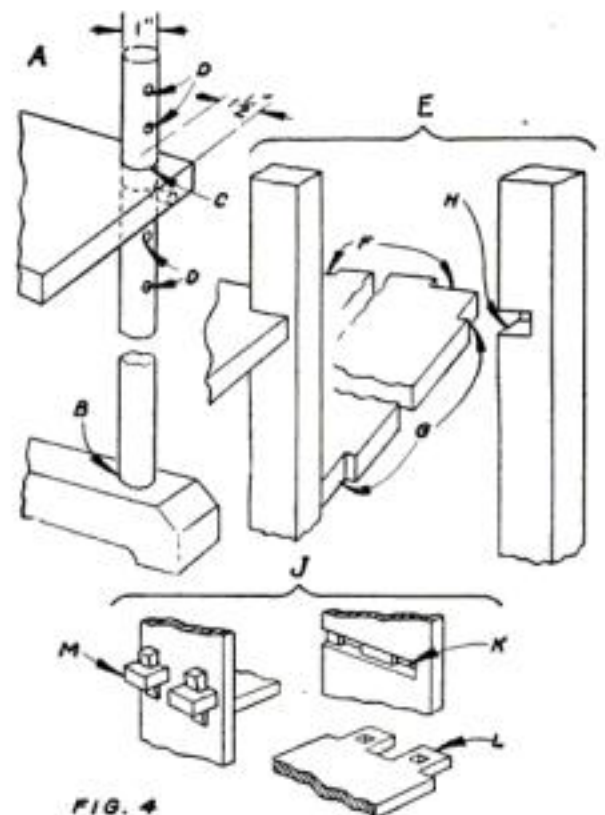

FIG. 4
1. A simple method of building a light but rather frail shelf of this kind is shown at A, Fig. 4.
2. The method of building a skeleton shelf indicated at *E*, Fig. 4, is well adapted for the construction of a music or magazine rack. It makes a strong and rigid set of shelves, open on all sides. Considerable skill, however, is necessary in fitting the shelves and legs because the distances between *F-F* and *G-G* of each shelf must be the same upon all shelves. Also, the mortises *H* in the legs which support the shelves must be carefully located so that each shelf will rest parallel with the others. The mortises should be cut closely to the thickness of the shelves, for upon the strength of these corners depends the rigidity of the case. The shelves should be clamped together and all corners marked and notched at one time to insure perfect alignment.
3. The type of construction shown at *J*, Fig. 4, was popular during the reign of "Mission" furniture during the first decade of this century. Certainly it has